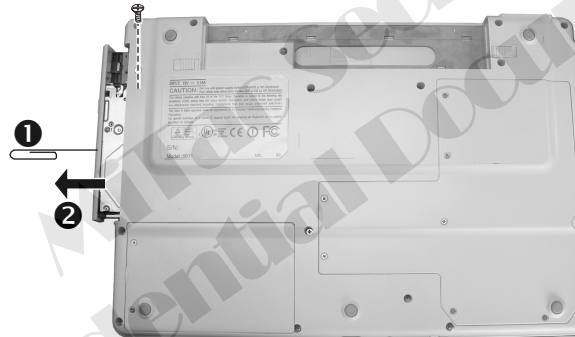

Figure 2-12 Remove the CD/DVD-ROM drive
2. Remove the one screw fastening the CD/DVD-ROM drive. (Figure 2-12)
3. Insert a small rod, such as a straightened paper clip, into CD/DVD-ROM drive's manual eject hole (❶) and push firmly to release the tray. Then gently pull out the CD/DVD-ROM drive by holding the tray that pops out (❷). (Figure 2-12)